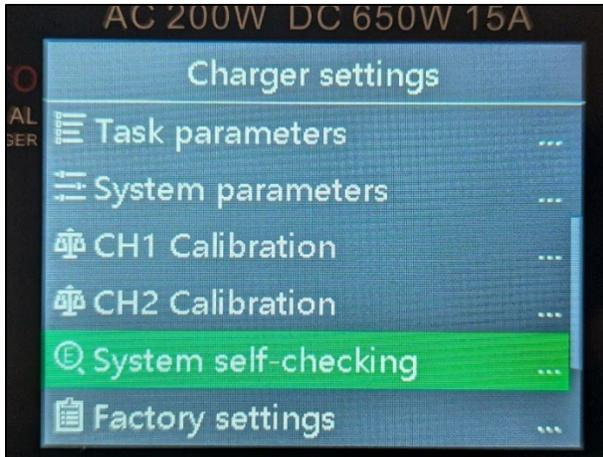
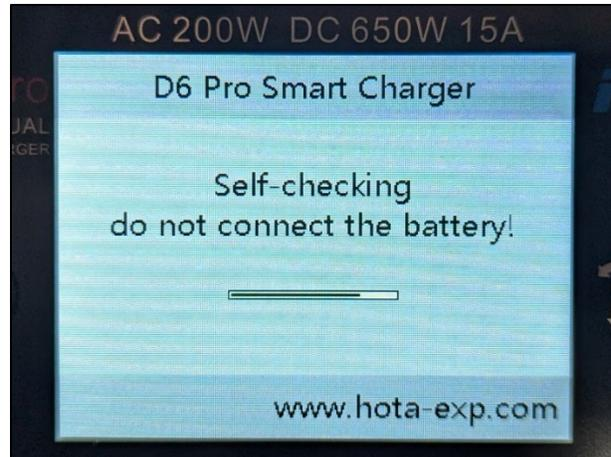

Figure 145 System Self-Checking
Figure 146 Example of self-checking notification
3. Select **System self-checking** and press the wheel to select. Wait for the diagnostic to run, as shown in **Figure 145** and **Figure 146**.